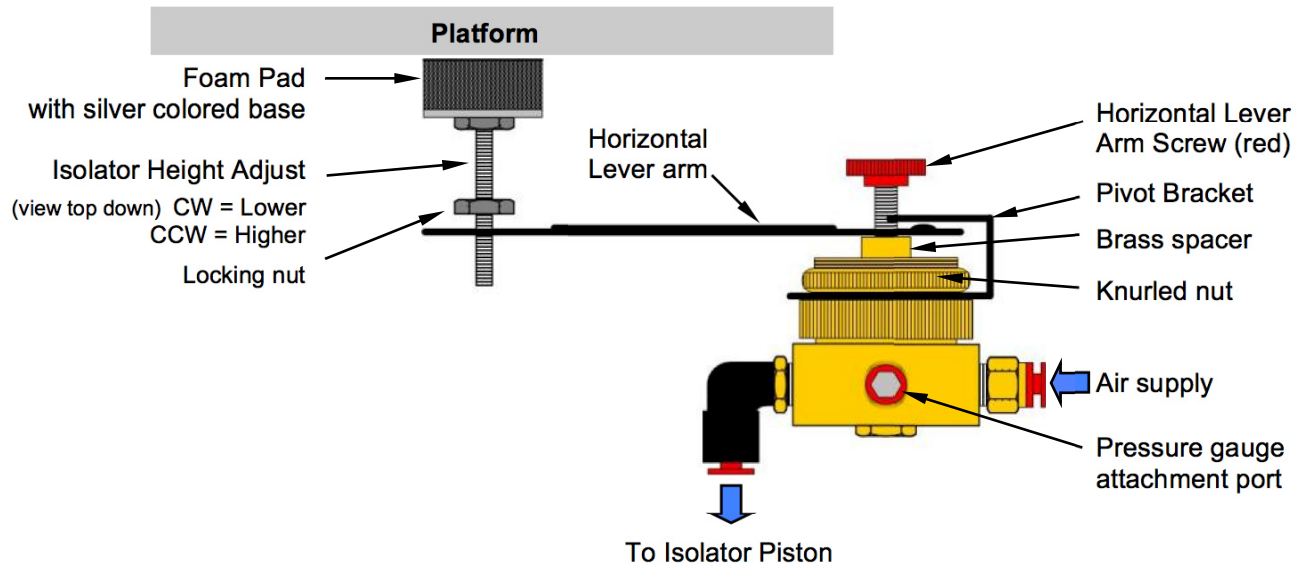

Figure 8, *Height Control Valve*
**Step 26** Tighten *locking nut* on all three **ISOLATOR HEIGHT ADJUSTS** as shown in figure 8 above, *Height Control Valve*.